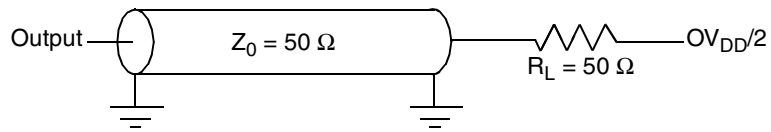
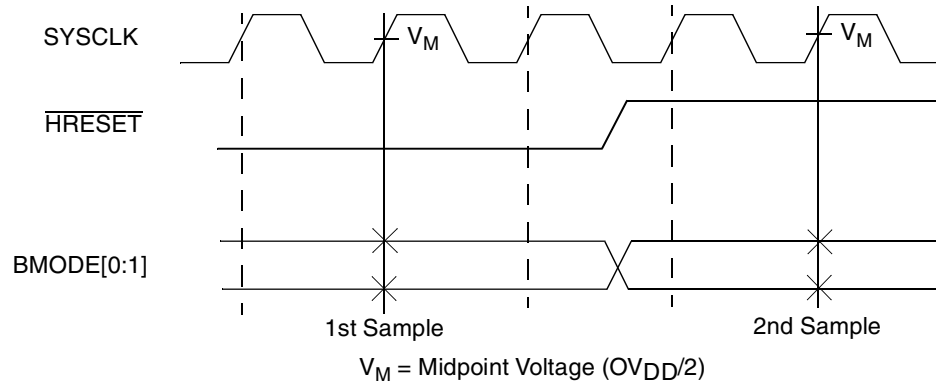
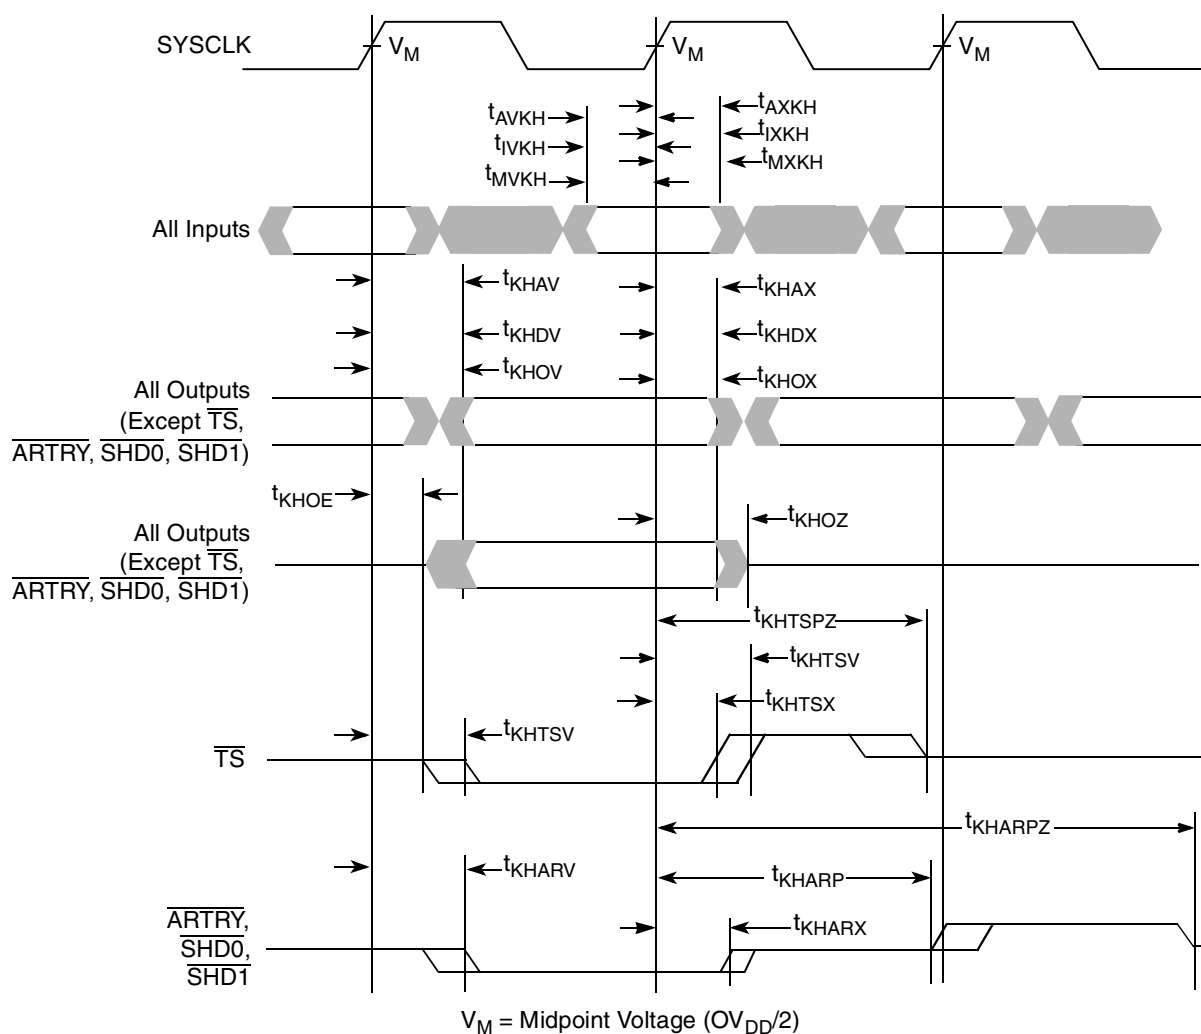

Figure 4. AC Test Load
Figure 5. $\overline{\text{BMODE}}[0:1]$ Input Sample Timing Diagram
Figure 6. Input/Output Timing Diagram
Table 9 provides the processor bus AC timing specifications for the MPC7448 as defined in Figure 4 and Figure 5.
1. All input specifications are measured from the midpoint of the signal in question to the midpoint of the rising edge of the input SYSCLK. All output specifications are measured from the midpoint of the rising edge of SYSCLK to the midpoint of the signal in question. All output timings assume a purely resistive 50-Ω load (see Figure 4). Input and output timings are measured at the pin; time-of-flight delays must be added for trace lengths, vias, and connectors in the system.
2. The symbology used for timing specifications herein follows the pattern of $t_{(\text{signal})(\text{state})(\text{reference})(\text{state})}$ for inputs and $t_{(\text{reference})(\text{state})(\text{signal})(\text{state})}$ for outputs. For example, t_{VKH} symbolizes the time input signals (I) reach the valid state (V) relative to the SYSCLK reference (K) going to the high (H) state or input setup time. And t_{KHOV} symbolizes the time from SYSCLK(K) going high (H) until outputs (O) are valid (V) or output valid time. Input hold time can be read as the time that the input signal (I) went invalid (X) with respect to the rising clock edge (KH) (note the position of the reference and its state for inputs) and output hold time can be read as the time from the rising edge (KH) until the output went invalid (OX).
4. According to the bus protocol, $\overline{\text{TS}}$ is driven only by the currently active bus master. It is asserted low and precharged high before returning to high impedance, as shown in Figure 6. The nominal precharge width for $\overline{\text{TS}}$ is t_{SYSCLK} , that is, one clock period. Since no master can assert $\overline{\text{TS}}$ on the following clock edge, there is no concern regarding contention with the precharge. Output valid and output hold timing is tested for the signal asserted. Output valid time is tested for precharge. The high-impedance behavior is guaranteed by design.
6. According to the bus protocol, $\overline{\text{ARTRY}}$ can be driven by multiple bus masters through the clock period immediately following $\overline{\text{AACK}}$. Bus contention is not an issue because any master asserting $\overline{\text{ARTRY}}$ will be driving it low. Any master asserting it low in the first clock following $\overline{\text{AACK}}$ will then go to high impedance for a fraction of a cycle, then negated for up to an entire cycle (crossing a bus cycle boundary) before being three-stated again. The nominal precharge width for $\overline{\text{ARTRY}}$ is $1.0 t_{\text{SYSCLK}}$; that is, it should be high impedance as shown in Figure 6 before the first opportunity for another master to assert $\overline{\text{ARTRY}}$. Output valid and output hold timing is tested for the signal asserted. The high-impedance behavior is guaranteed by design.
8. $\overline{\text{BMODE}}[0:1]$ and $\text{BVSEL}[0:1]$ are mode select inputs. $\overline{\text{BMODE}}[0:1]$ are sampled before and after $\overline{\text{HRESET}}$ negation. $\text{BVSEL}[0:1]$ are sampled before $\overline{\text{HRESET}}$ negation. These parameters represent the input setup and hold times for each sample. These values are guaranteed by design and not tested. $\overline{\text{BMODE}}[0:1]$ must remain stable after the second sample; $\text{BVSEL}[0:1]$ must remain stable after the first (and only) sample. See Figure 5 for sample timing.
Figure 4 provides the AC test load for the MPC7448.
Figure 5 provides the $\overline{\text{BMODE}}[0:1]$ input timing diagram for the MPC7448. These mode select inputs are sampled once before and once after $\overline{\text{HRESET}}$ negation.
Figure 6 provides the input/output timing diagram for the MPC7448.